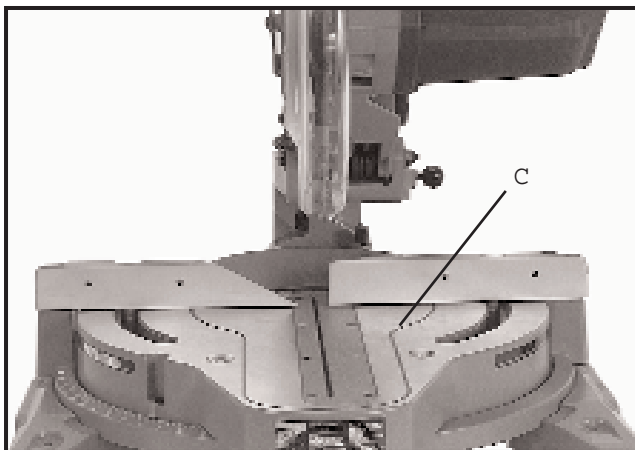

Fig. 13
2. Fig. 13, illustrates the table (C) in the 0 degree straight out-off position.